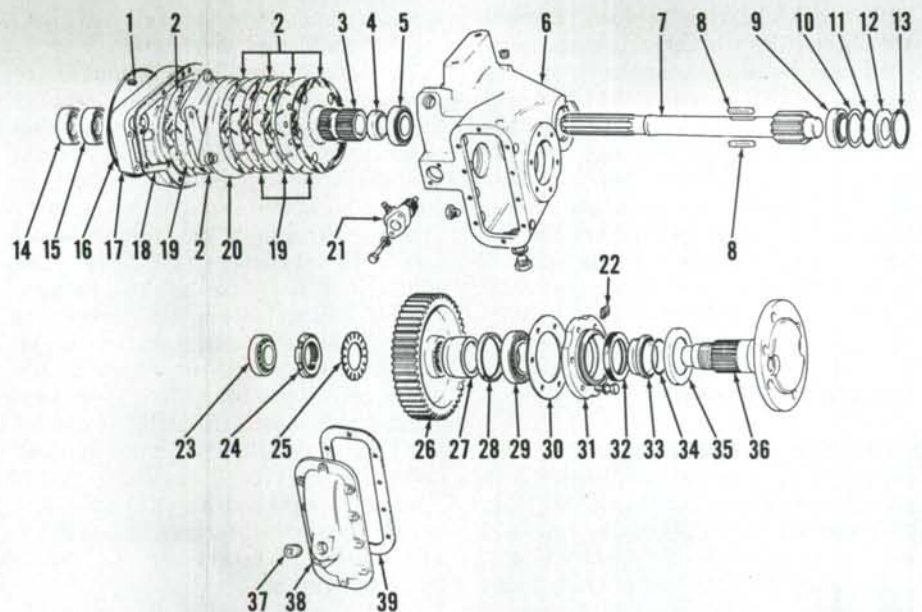

Fig. 217—Exploded view of Model 1490 final drive assembly. Final drive used on Model 1494 is similar.
282. DISASSEMBLY. It is not necessary to remove cab or platform to service final drives. Stub axle (36—Fig. 217) and bull gear (26) can be removed without removing final drive housing.
283. REASSEMBLY. Heat bearing cones to 120°C (250°F) maximum before installing onto axle shaft (7—Fig. 217). Install spacer (4) with chamfered side towards bearing. Install inner bearing cup in housing, then install axle shaft assembly. Install outer bearing cup and end cover (12) without shims (10) and "O" ring (11). Make sure all parts are properly seated, then use a dial indicator to measure axle shaft end play. Remove snap ring and end cover. Install shim (10) thickness equal to